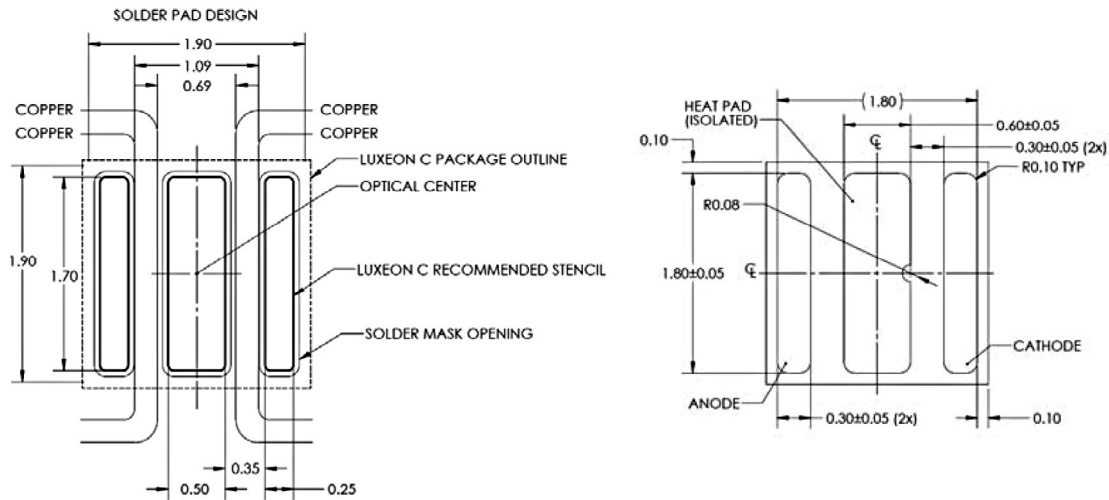

Figure 13. Recommended PCB solder pad layout for LUXEON C Color Line.
Notes for Figure 13:
- Notes for Figure 13: